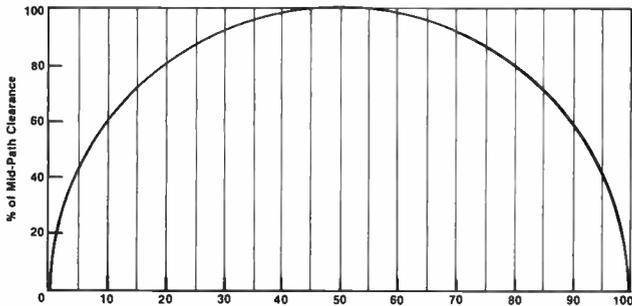

Figure 2: Percent of total path length.
5. Determine fresnel clearance required above each critical point from Figure 2 and plot on profile above tree allowance.
11. Using Figure 2, locate intersection of curved line and applicable percent total path length. Read percent of mid-path clearance. (Example: 16.6 percent = 76 percent.)
12. Multiply mid-path clearance derived from Table A and Figure 2.